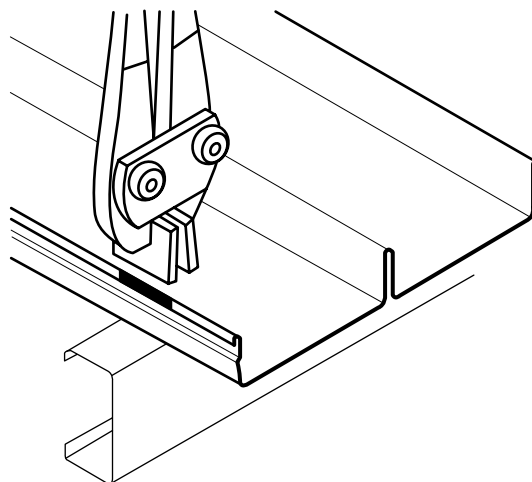

Figure 9.4.4
1. Using the rib closing tool, flatten the rib of the first (previous) sheet at each purlin where the top fixing clips will fit (Figure 9.4.4).